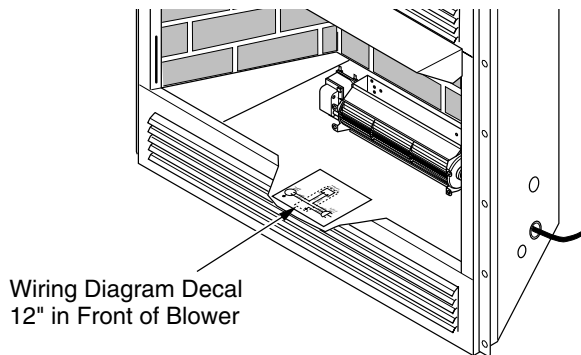

Figure 27 - Location of Wiring Diagram Decal (Model May Vary From Illustration)
10. Peel off the backing paper and stick the supplied wiring diagram decal on the firebox bottom approximately 12" in front of the blower (see Figure 27, page 18).
11. Peel off the backing paper and stick the supplied wiring diagram decal on the firebox bottom approximately 12" in front of the blower (see Figure 27).